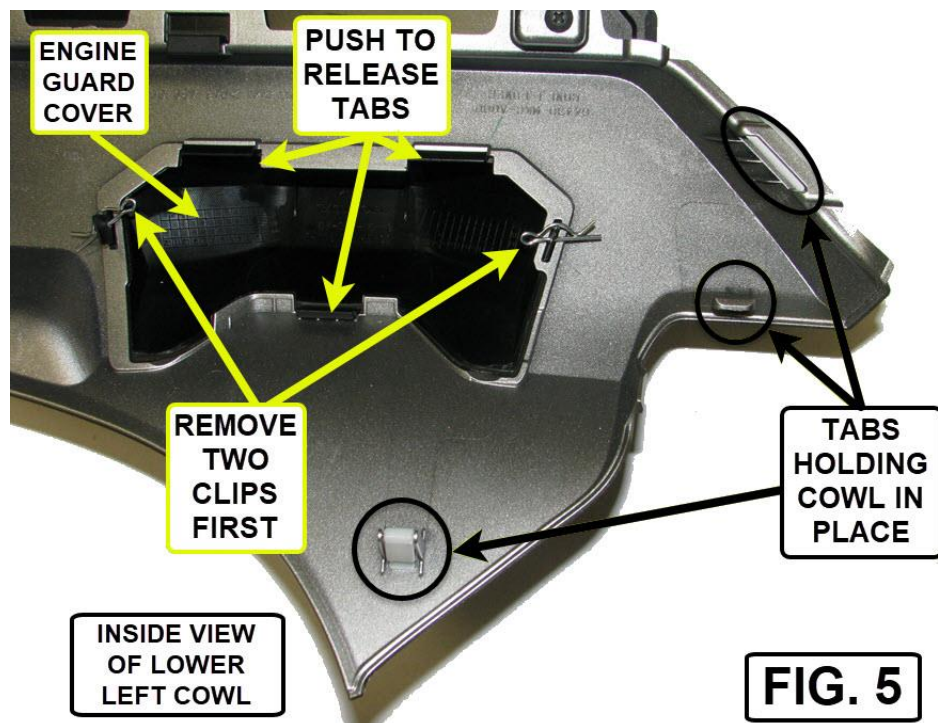

FIG. 5
4. USING FIG. 3 AND FIG. 5 FOR REFERENCE, CAREFULLY RELEASE THE LEFT LOWER COWL TAB FROM THE LOWER SHROUD.
7. REMOVE THE TWO CLIPS FROM THE ENGINE GUARD COVER (FIG. 5 SHOWS INSIDE OF THE LEFT LOWER COWL) CLIPS WILL NOT BE REUSED.